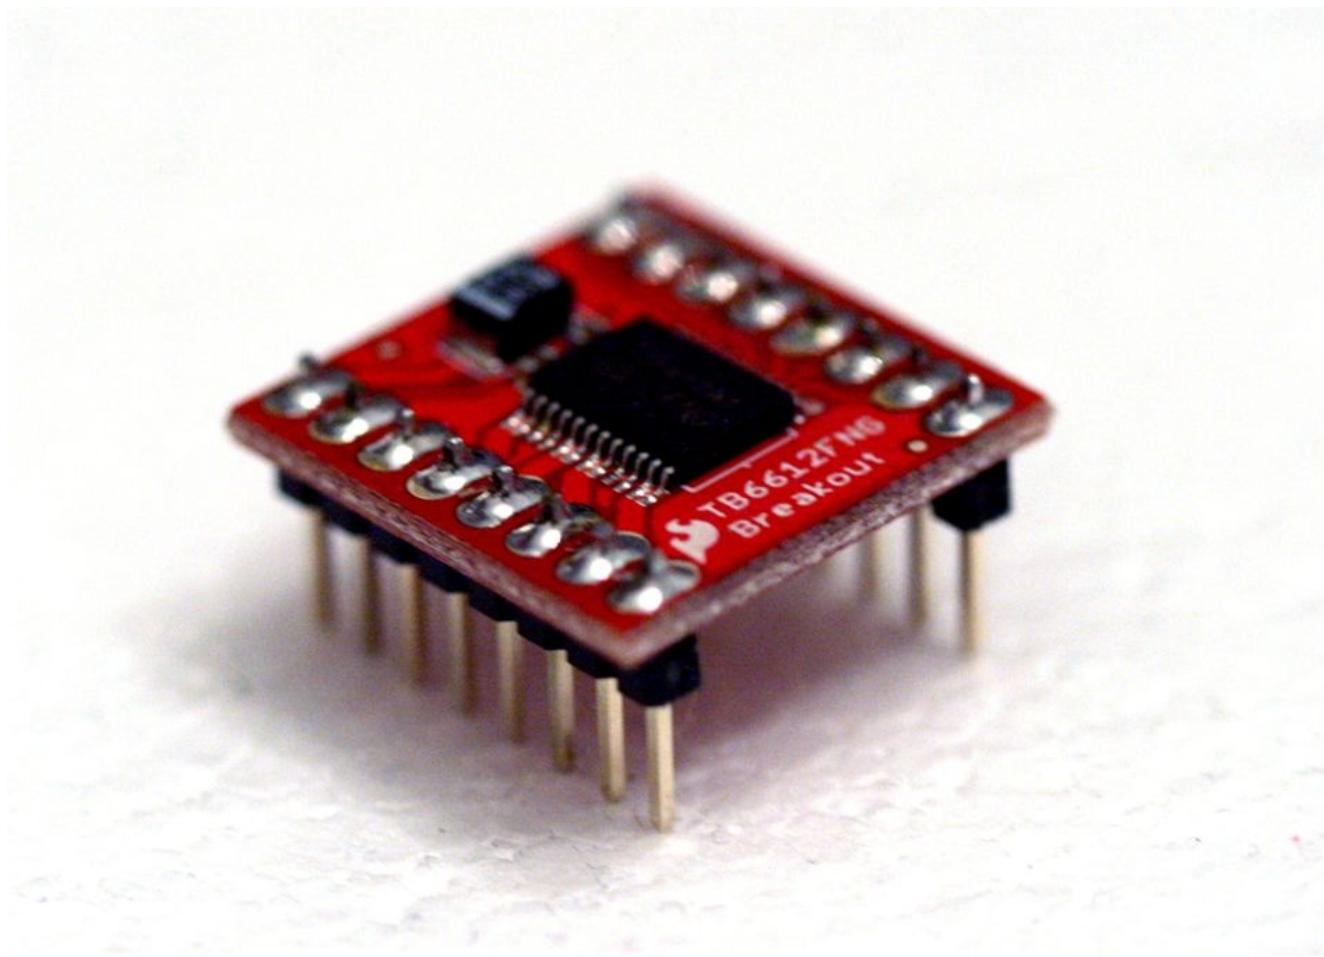

Figure 3-17. The soldered motor driver
2. Solder the headers in place, from the top side of the motor driver, as shown in Figure 3-17. Make sure that you don't accidentally connect two pins together with the solder. This would short-circuit your driver and cause it to malfunction.